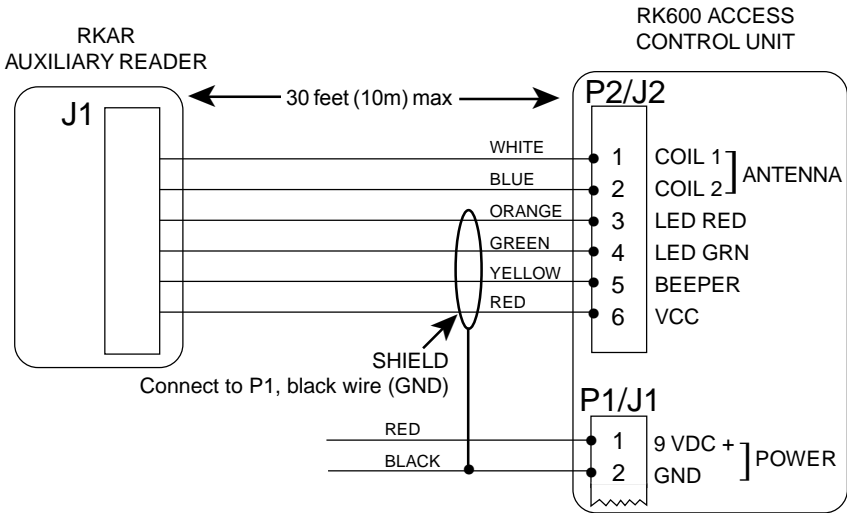

Figure 5 - RKAR Wiring
2. Insert the cable end through the access hole in the mounting plate. Splice in additional wire, if necessary (Figure 5).
A short cable assembly extends from the back of the Auxiliary Reader. **This cable may be extended up to 30 feet.** If the cable must be extended, **for the best performance, use TWO SEPARATE CABLES:** one unshielded, non-twisted, two-conductor wire to the antenna coil, Pins 1 & 2, plus a **SEPARATE** 4-conductor shielded cable to the LED and Beeper, Pins 3 - 6, (Figure 5). These cables can be run in the same conduit. Connect the cable shield from the LED/Beeper cable to the black wire (GND) on P1 at the RK600.